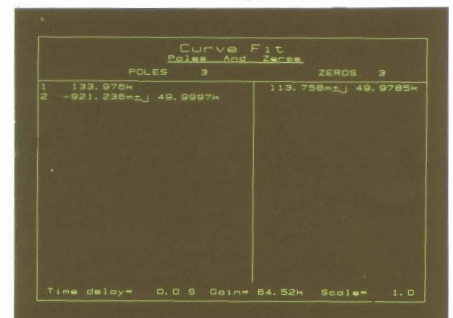

Figure 9-2
- 13. View Table** Select the **EDIT TABLE** softkey to display the pole/zero table for the curve fit. The table for this example is shown in Figure 9-2.